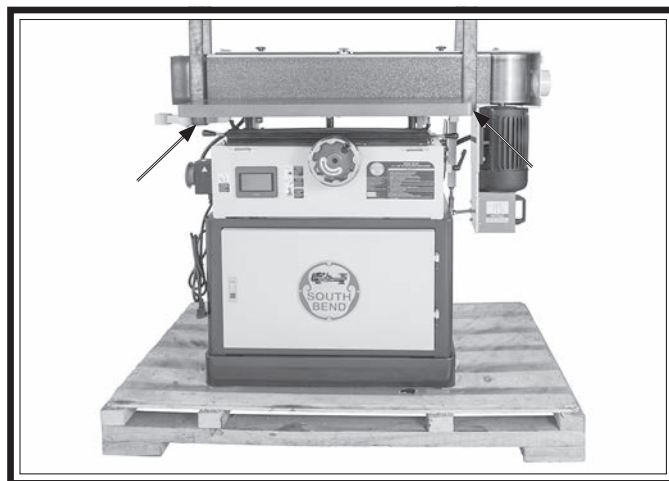

Figure 15. Lifting locations.
5. Use lifting straps to lift machine off pallet at lifting locations shown in **Figure 15**.